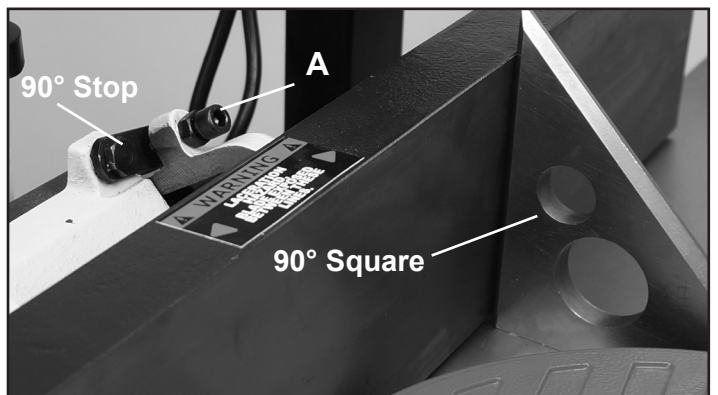

FIG. 25
4. Put a square on the table with one end against the fence and adjust the fence until it is exactly 90 degrees to the table. FIG. 25.
5. Loosen the locking nut with a 13mm hex wrench and adjust the Allen screw (A) until a 90 degree setting is reached. Tighten the locking nut to retain the adjustment. FIG. 25.